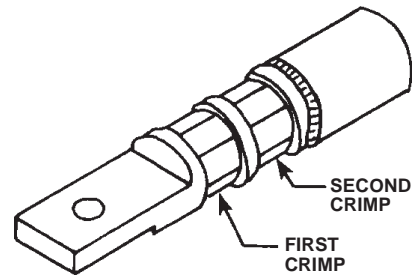

Fig. 2
8. Select an appropriate tool and die combination from Table 1 and make the required number of crimps within the boundaries stamped on the connector barrel. Refer to Figure 2 for sequence of multiple crimps.